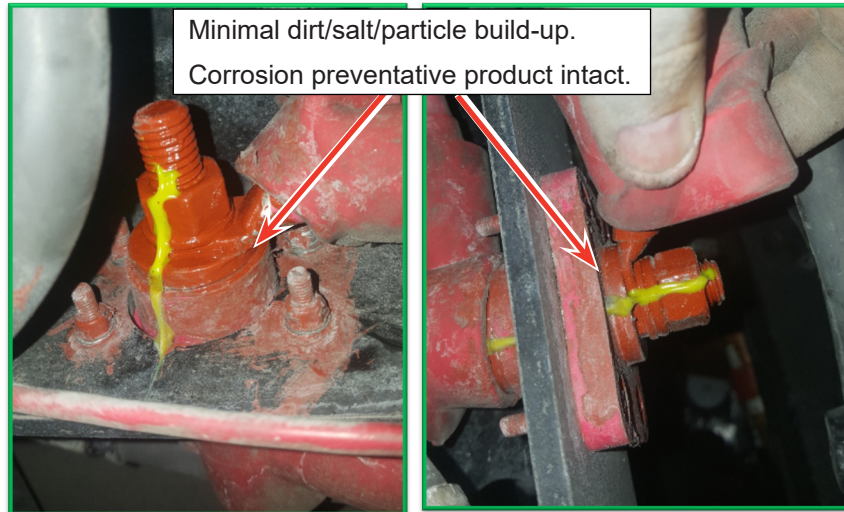
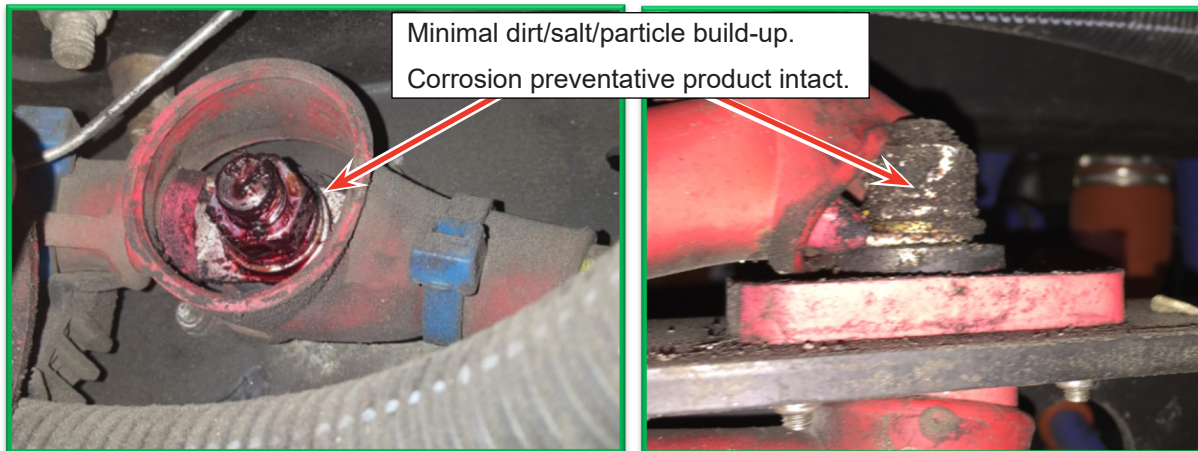

Figure 5 - No Maintenance for Junction Blocks with **DOLPH ER-41/EB-41** Corrosion Preventative Product
Figure 6 - No Maintenance for Junction Blocks with **NOCO NCP-2/ Maxicoat** Corrosion Preventative Product
- a. **No maintenance recommended:** No maintenance is required, if the junction block is found with minimal build-up of road dirt, salt and particles and with corrosion preventative product intact (see Figure 5 & Figure 6).